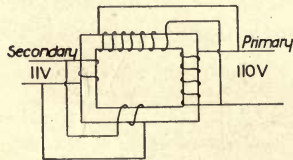

FIGURE 219.—110 VOLTS TRANSFORMED TO 11 VOLTS.
2. If the primaries are connected in parallel and the secondaries in parallel, the voltage will be $\frac{1}{10} \times 110 = 11$. (Figure 219.)